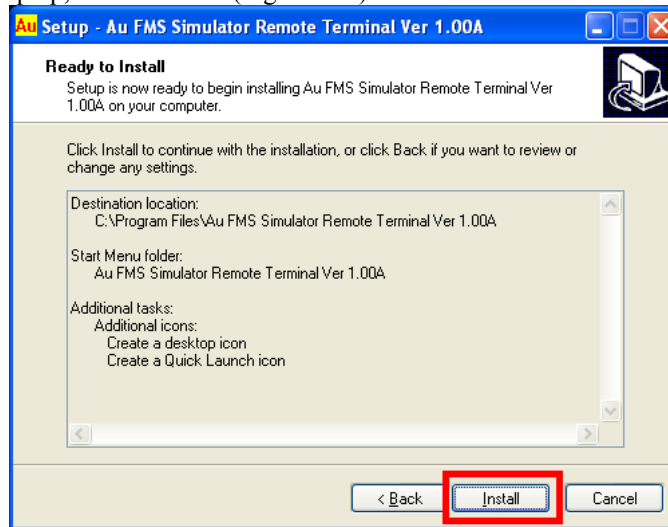

Figure A-7
7. "Ready to Install" window pop up, click "Install" (Figure A-7)